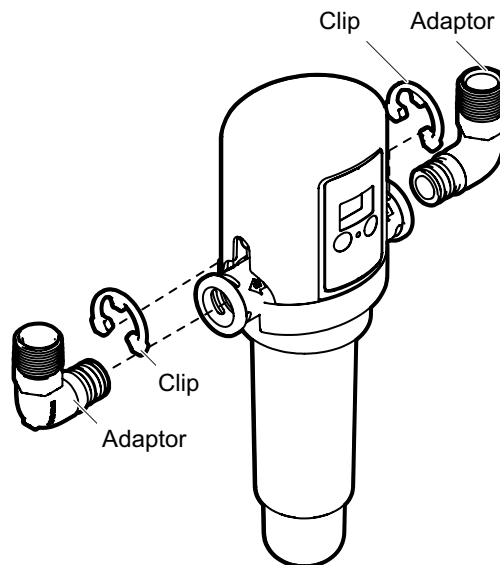

FIG. 9
1. Insert the adaptors into the holes on each side of the filter head (See Figure 9).